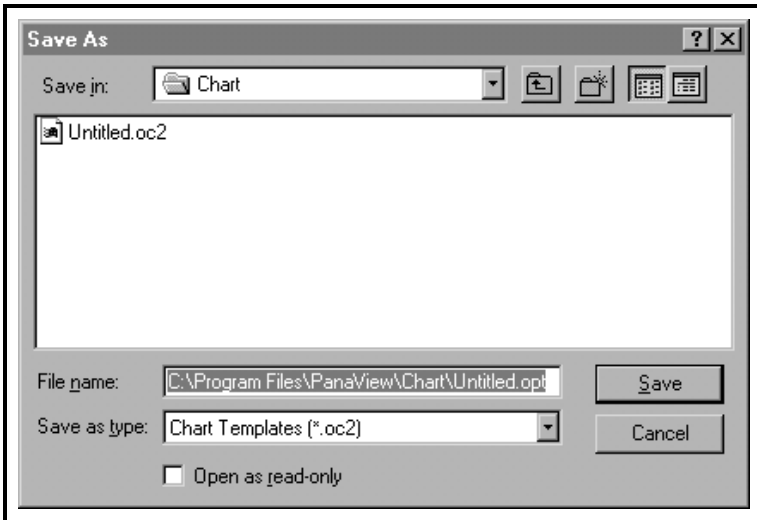

Figure 6-9: The Save Chart Style Dialog Box
- Click on the “*Save Chart Style*” menu option to save only the current graph properties (and not the parameters to be graphed) as a template to be used for future graphs. The dialog box shown in Figure 6-9 below appears. Enter a name for the chart (graph) template file and click on the [Save] option button to save the file as